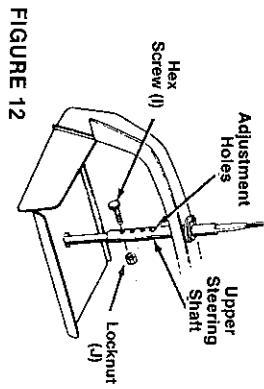

FIGURE 12
1. For shipping purposes, the upper steering shaft is pushed all the way down over the lower steering shaft. Pull the upper steering shaft up. The three holes in the shaft provide three steering wheel heights. Select desired hole and secure with hex screw (I) and lock nut (J). See figure 12.